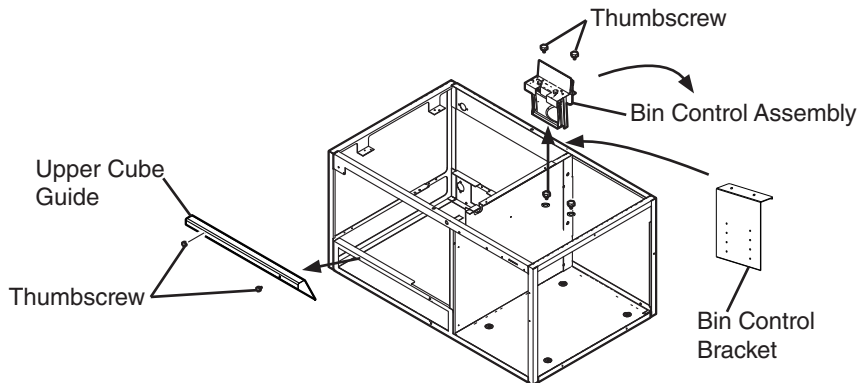

Fig. 5a
- 13) Remove and discard the upper bin control assembly (bin control switch and bin control mounting bracket) and thumbscrews. Remove the cube guide and thumbscrews. Discard the upper cube guide. Retain one of the thumbscrews for use later in these instructions. See Fig. 5a.